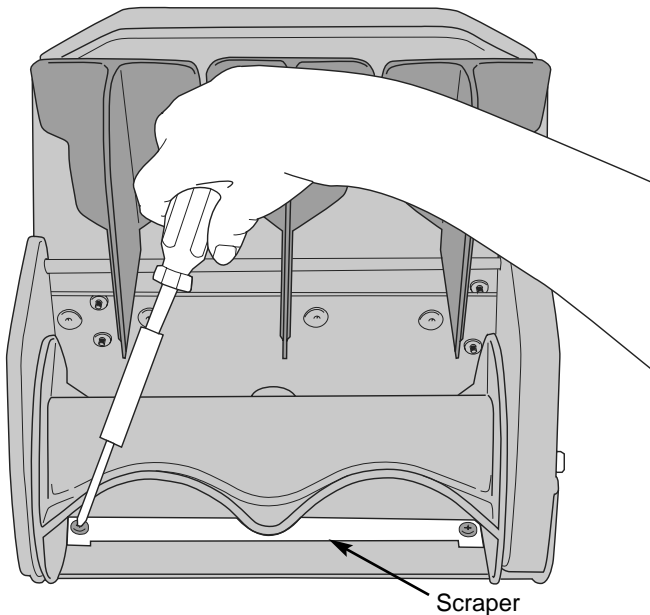

Fig. 11
2. Beneath the rotor, locate the three (3) screws securing the scraper to the housing. Remove them using a #T20 Torx bit or flat blade screwdriver (Fig. 11).
4. The new scraper will snap into place. Once in place, attach it to the unit by reinstalling the three (3) screws. Torque the screws to: 25-30 in-lb (2.8-3.3 N-m)